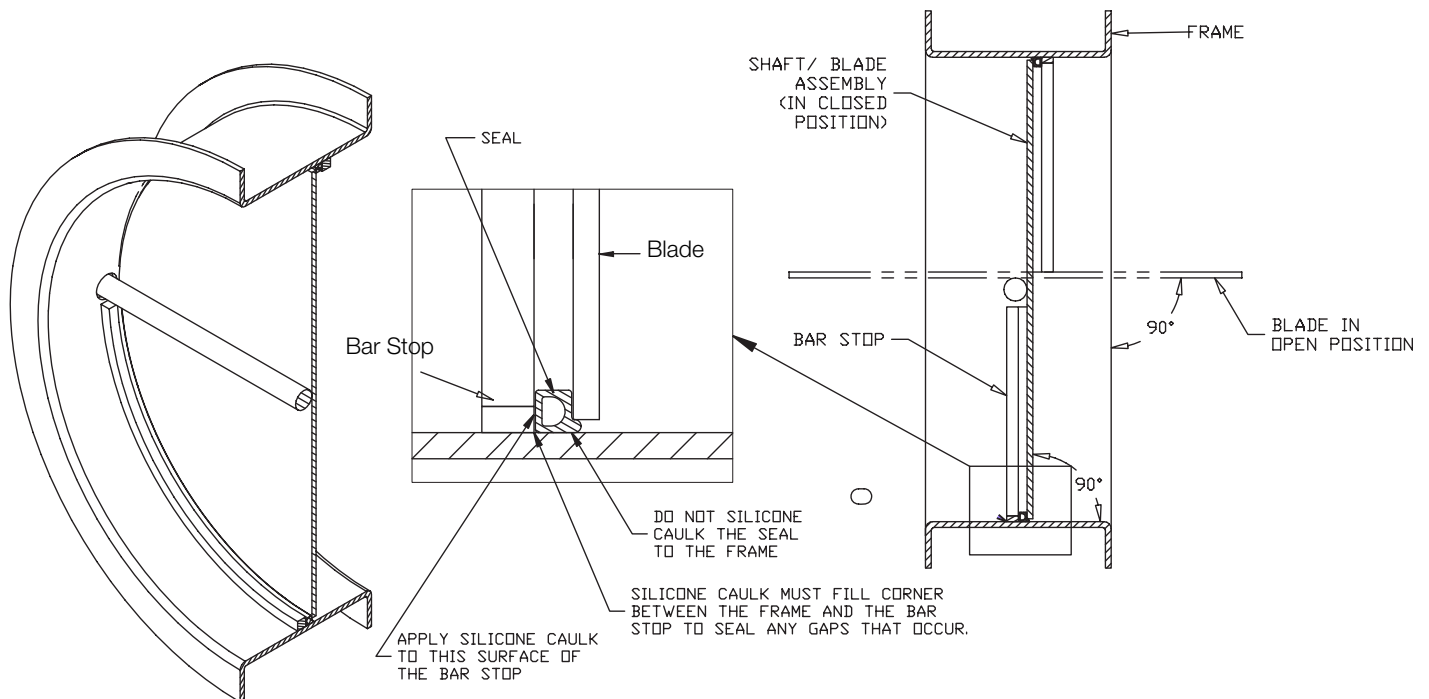

Figure 1
- 3) Replacement seal is either approximately square or "D" shaped. The flat surface of seal is to be oriented against the rolled bar stop and is to be located along perimeter. See Figure 1.
- 4) Apply a 1/8 in. bead of Tremco Spectrem 1 adhesive sealant to either the rolled bar or to the seal. See figure 1.